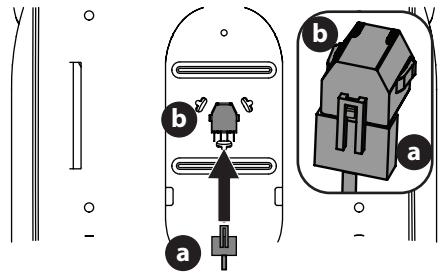

Figure 8
3. If necessary, securely connect the seat switch wiring harness (a) to the seat switch (b) (Figure 8). Secure excess wire away from pinch points before continuing.